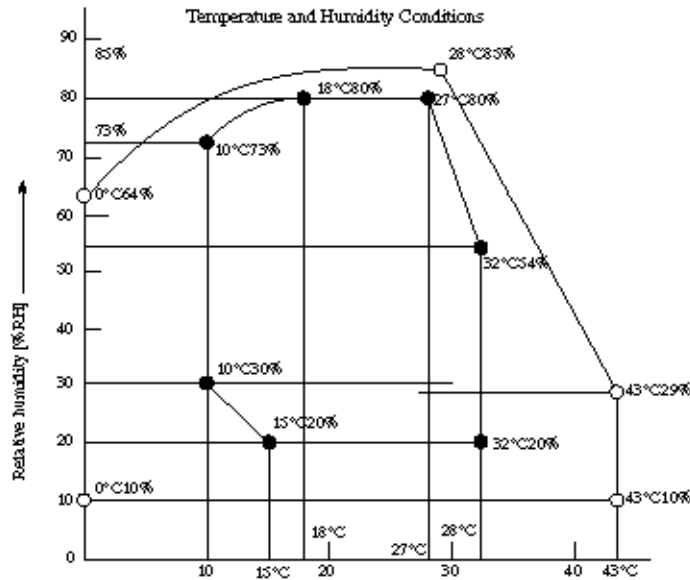

Figure 1.5.1 Ambient Condition
- 1) Operating condition See Figure 1.5.1
- 2) Storage condition See Figure 1.5.1